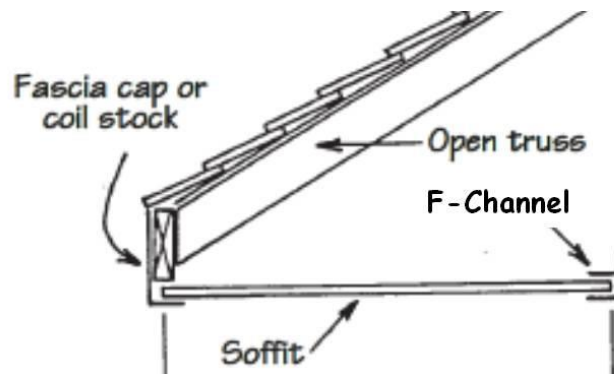

Figure 11-11. Eave Soffit.
4. Measure the distance from the top of the nail flange to the bottom of the top lock (See Fig. 11-11). This is normally 1¼" to 1⅜". Add this measurement to 40" to obtain the height of the quality line. For each side of the shed at each corner, make marks at the height calculated, measuring from the bottom of the starter strip. Tack a nail into each of those marks and snap a Quality Control chalk line around the shed.